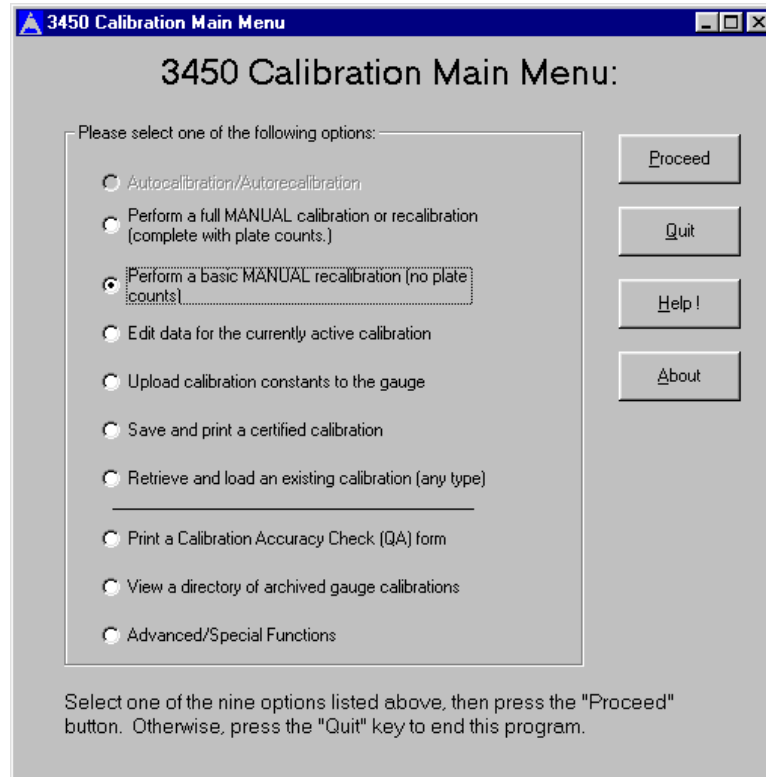

Figure 3–1. 3450 Calibration Main Menu
2. An introductory splash screen is displayed on the computer for approximately five seconds, followed by the **3450 Calibration Main Menu** shown in Figure 3–1.
4. The software displays the screen shown in Figure 3–2, requesting data for the gauge calibration. Enter all of the requested data and click the **Next** button.